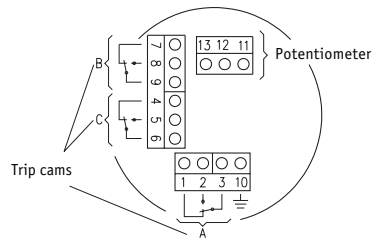

Fig. 5: Pin connection GP43/44
- Connect strands to the clip terminals (fig. 5 and 6).